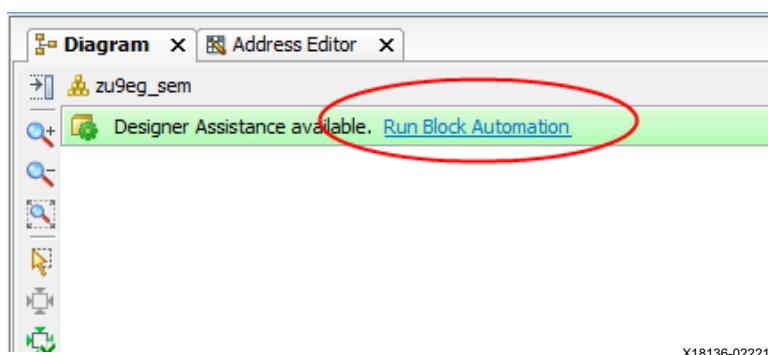

Figure 5: Run Block Automation
- Select **Run Block Automation**. See Figure 5.